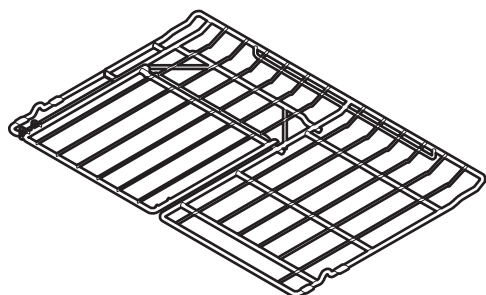

Figure 2
- **Flat oven half rack** (Figure 2 & 3 - Some models).
The **Flat Oven Half Rack** has a removable insert that can provide extra space for larger food items. The right half rack portion may still be used for other food items like a casserole dish (See Figure 2 & 3). To remove the insert, squeeze on the left front insert side (See Figure 5) of the rack and tilt out clockwise. To reinstall, insert rear hooks at back of insert (See figure 5) and lay insert down. Make sure both insert front hooks snap into rack (See figure 6).